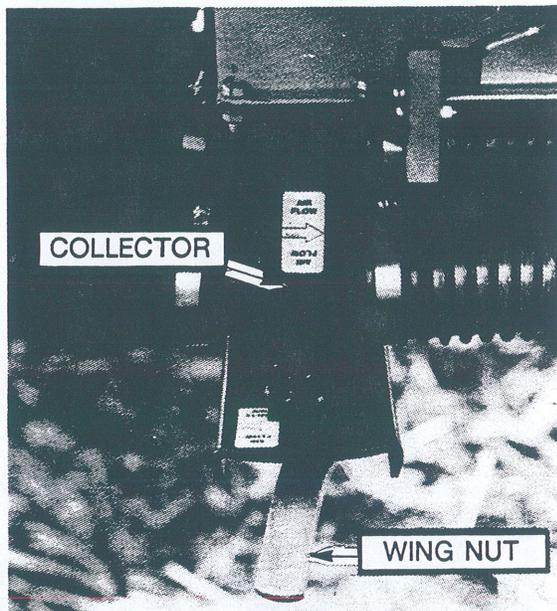

Figure 28 - Collector Bottom
- (b) Remove the Wing Nuts. (See Fig. 28).
- (f) Turn the crank until material begins to fall through the collector body. (See Fig. 28).
NOTE: Arrow directions on the collector **bottom** must point in the same direction as the ones on the collector **body**. (See Fig. 28) On newer models, the collector bottom can only be assembled one way.